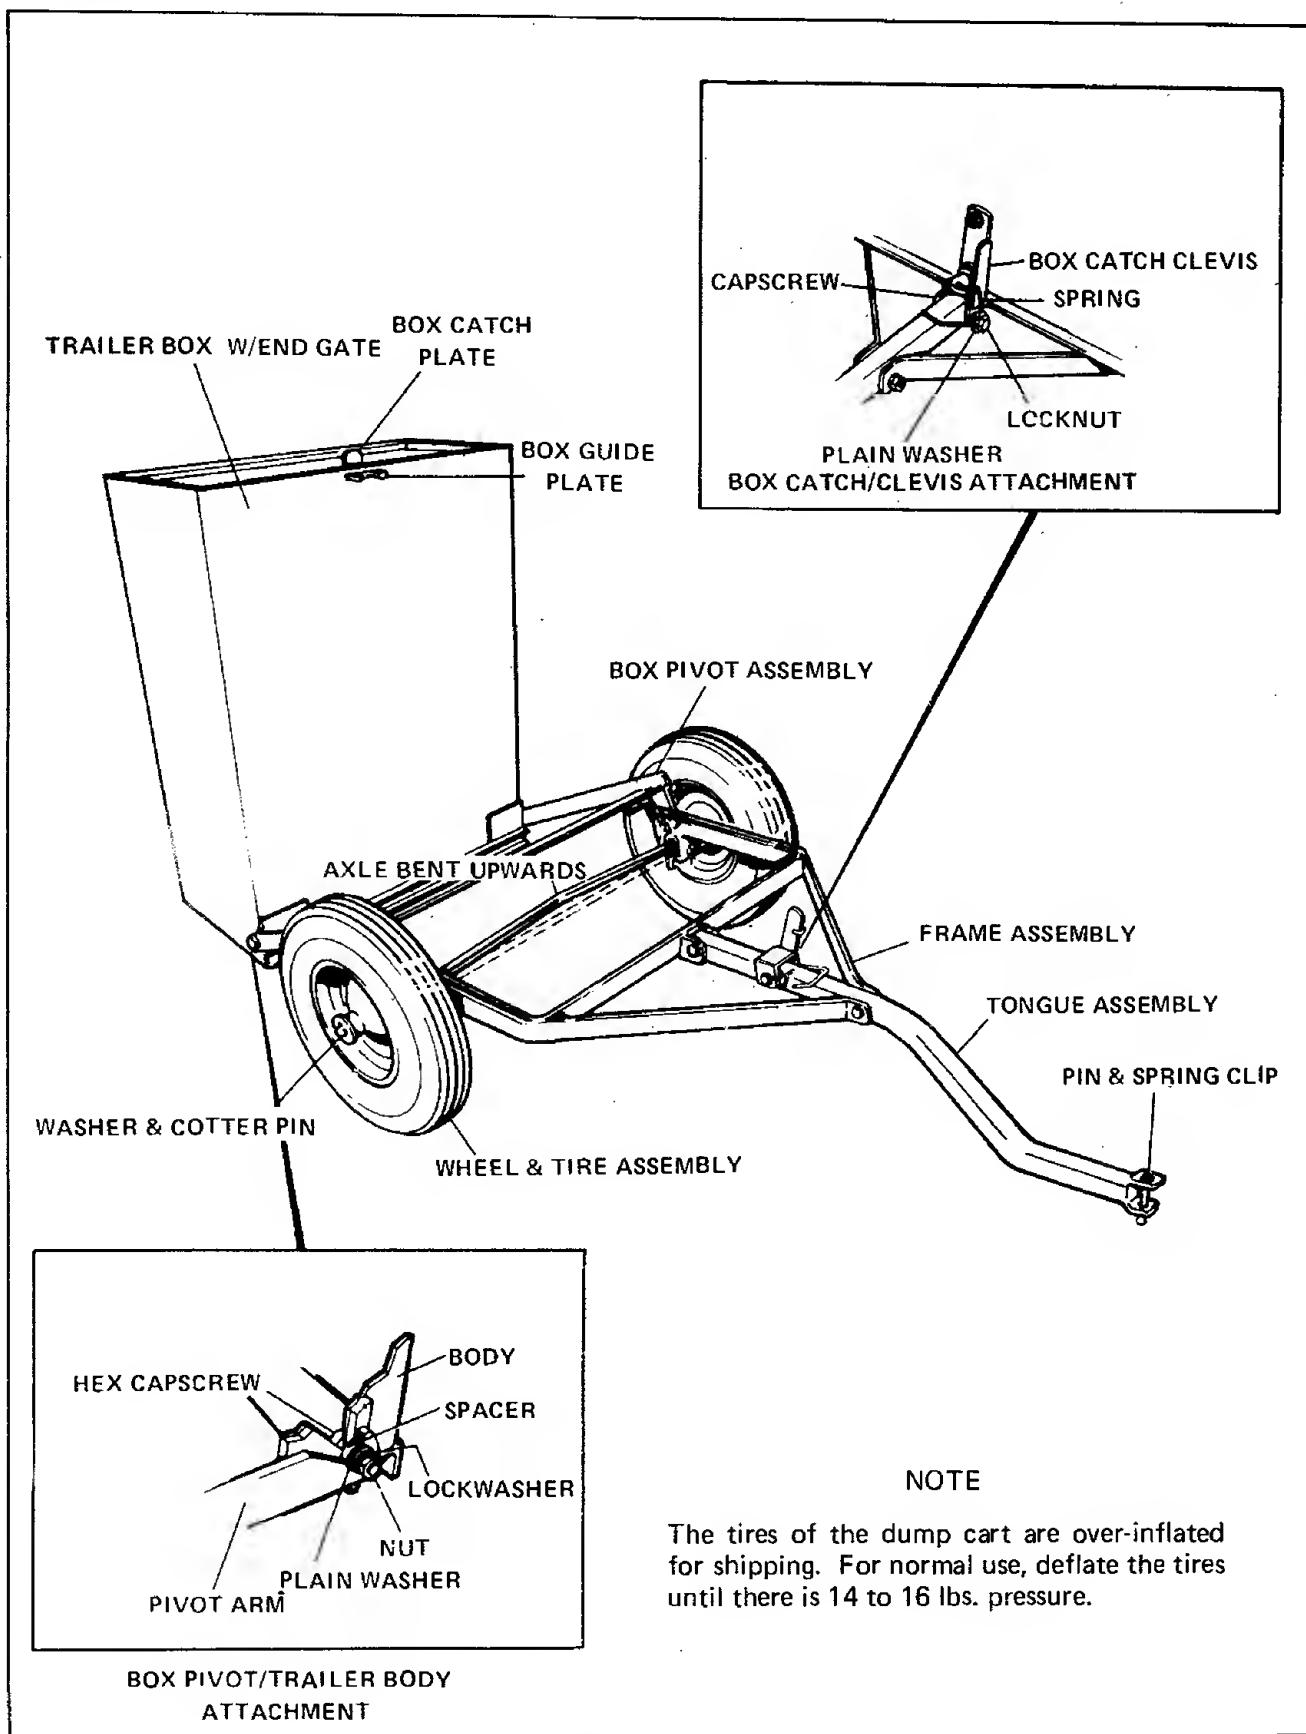

Figure 18. Dump Cart
3. With the bend in the center of the axle facing UP, place the cart frame over the axle so that the U-shaped pads on the axle fit inside the U-shaped brackets on the frame. Attach the axle to the frame with 5/16 x 1-3/4 inch capscrews and locknuts, one through each U-shaped bracket, see figure 18.
4. Attach the cart tongue to the cart frame with the tongue bend sloping downward, that is, the front of the tongue should be lower than the rear. Use two 3/8 x 2-1/4 inch capscrews, lockwashers and nuts (figure 18).
6. Place the dump cart box on its endgate and attach the box to the frame pivot assembly using two 3/8 x 1 inch capscrews, flat washers, bushing, lockwashers and nuts. Insert the capscrew from the inside of the box. Insert the bushing on the capscrew through the pivot assembly. Place flat washer and lock-washer on the capscrew, and tighten on the nut. (See figure 18.)
7. Attach the box latch clevis to the trailer tongue as shown in figure 18. Insert a 3/8 x 2-3/4 inch capscrew through the clevis and tongue. Place the latch spring on the capscrew, and hook the large end over the tongue, the small end over the latch handle.